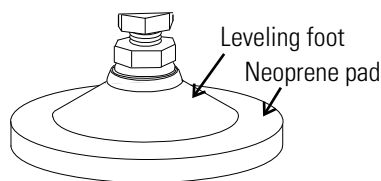

Figure 1-11. Leveling Feet
2. Assemble the neoprene pads to the bottom of each of the leveling feet (Figure 1-11).